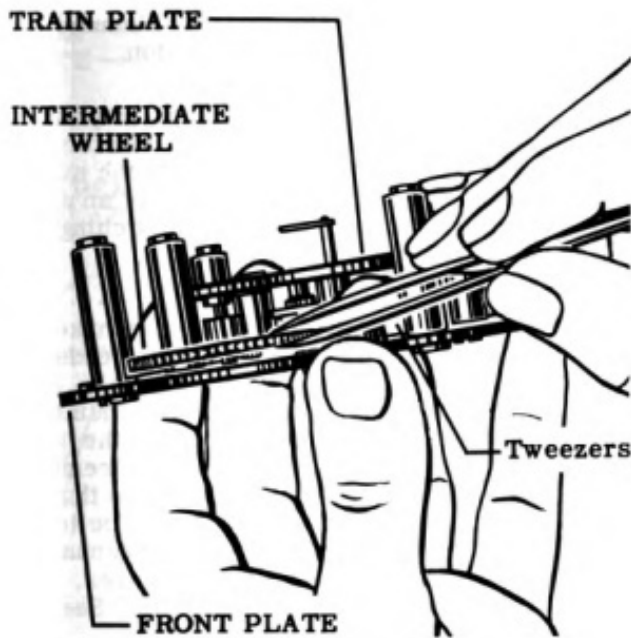

Figure 58
7. Check the endshake of the center and intermediate wheels. Fig. 58 shows the operation of checking the intermediate wheel endshake.